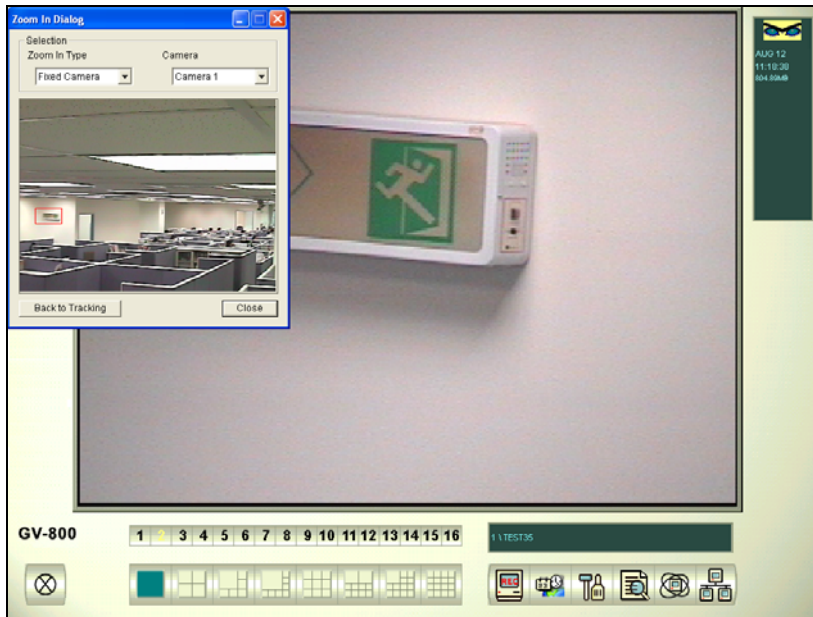

Figure 1-75 The outlined area in the Dialog window is magnified in the main screen
1. Click the **Configure** button, point to **Object Tracking Application**, and click **Object Tracking View** to open the Zoom in Dialog window, overlapping on the main screen (Figure 1-75).